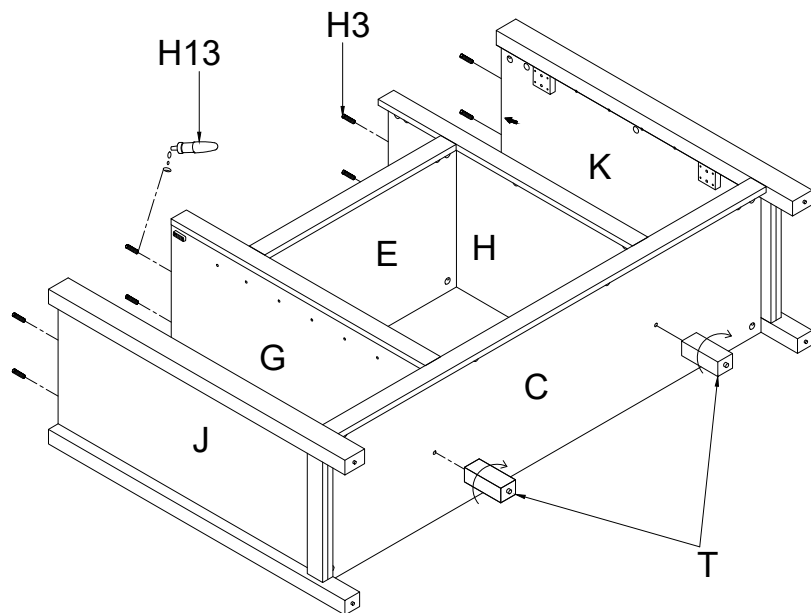

Figure 10
Place a small drop of Glue (H13) and Insert Short wood dowel (H3) into the indicated holes of the Left side panel (J), Left partition (G), Right partition (H) and Right side panel (K) as shown in the figure 10.
Insert Middle leg (T) into Base (C) and turn clockwise until tight as shown in figure 10.